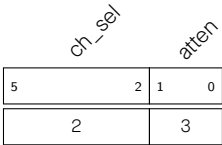

Figure 39.3-9. SAR ADC1 cmd0 Configuration
- Channel 2, with the attenuation of 12 dB. See Figure 39.3-9.